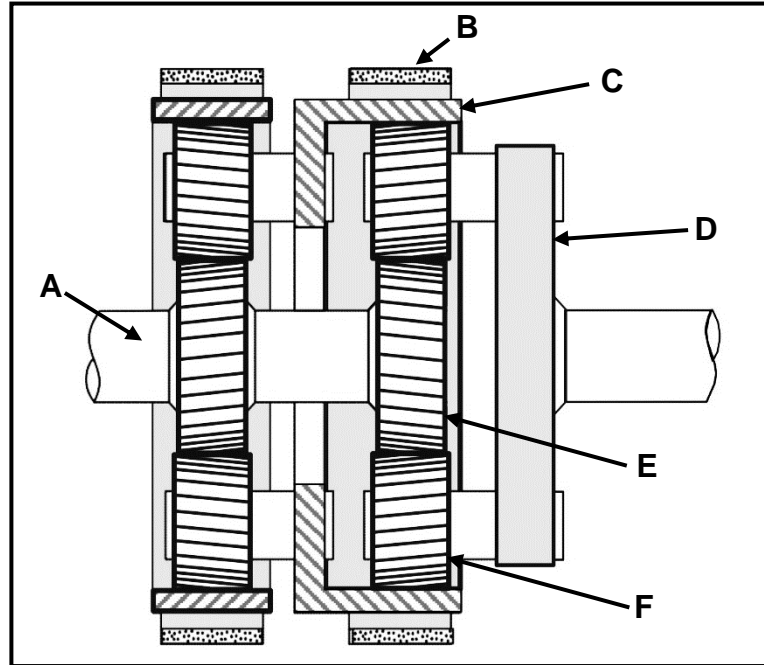

FIGURE 9.1
9.1 Study the cross-sectional view of a double epicyclic gear system in FIGURE 9.1 below. Answer the questions that follow.
9.1.2 Describe, in detail, the operation of the gear system in FIGURE 9.1 when low gear ratio/gear reduction is obtained.
HINT: Use FIGURE 9.1 to assist you in your answer. (4)